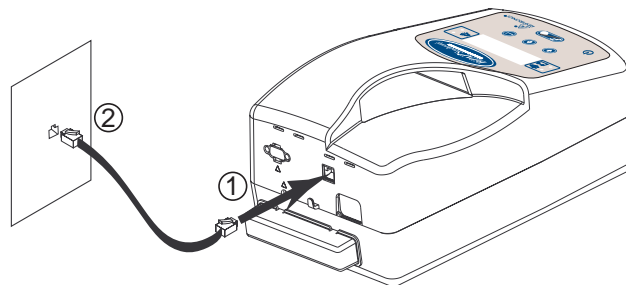

Figure 9-1 Connecting the Telephone Line
- STEP 1** Plug a telephone line from the rear of the Synchrony to a convenient telephone outlet. See Figure 9-1.
- STEP 1** Connect a telephone line to the Synchrony as shown in Figure 9-1.